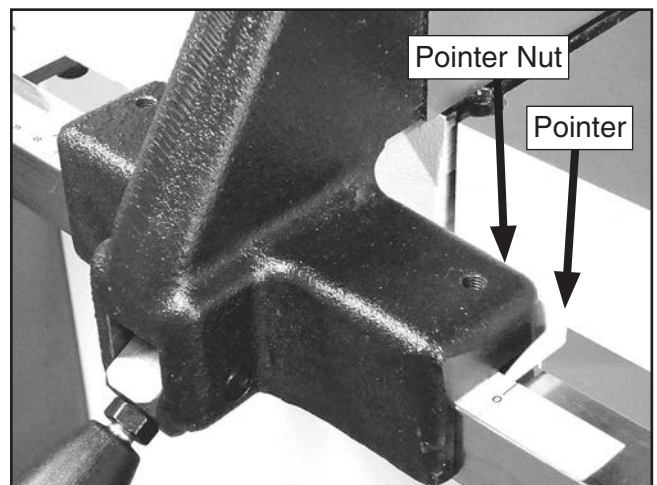

Figure 31. Calibrating fence pointer (adjustment nut out of view).
7. Loosen the pointer adjustment nut (see **Figure 31**) and set the pointer in line with "0" on the measurement scale on the rail.